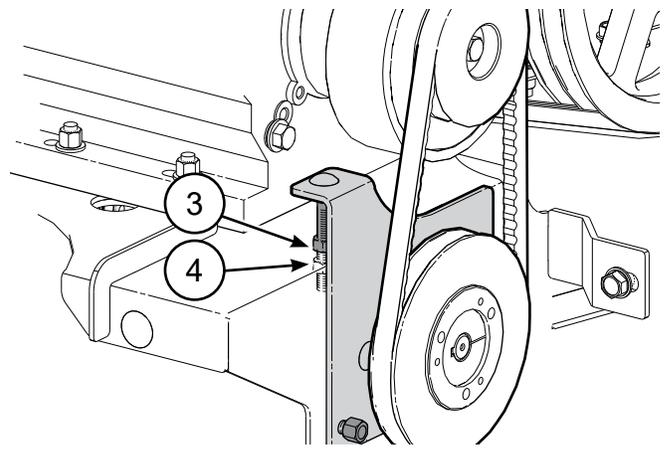

Fig. 49—Belt Tension Adjuster
1. With the belt installed, tighten the belt tension adjuster nut (item 4, Fig. 49) to remove the slack from the belt.